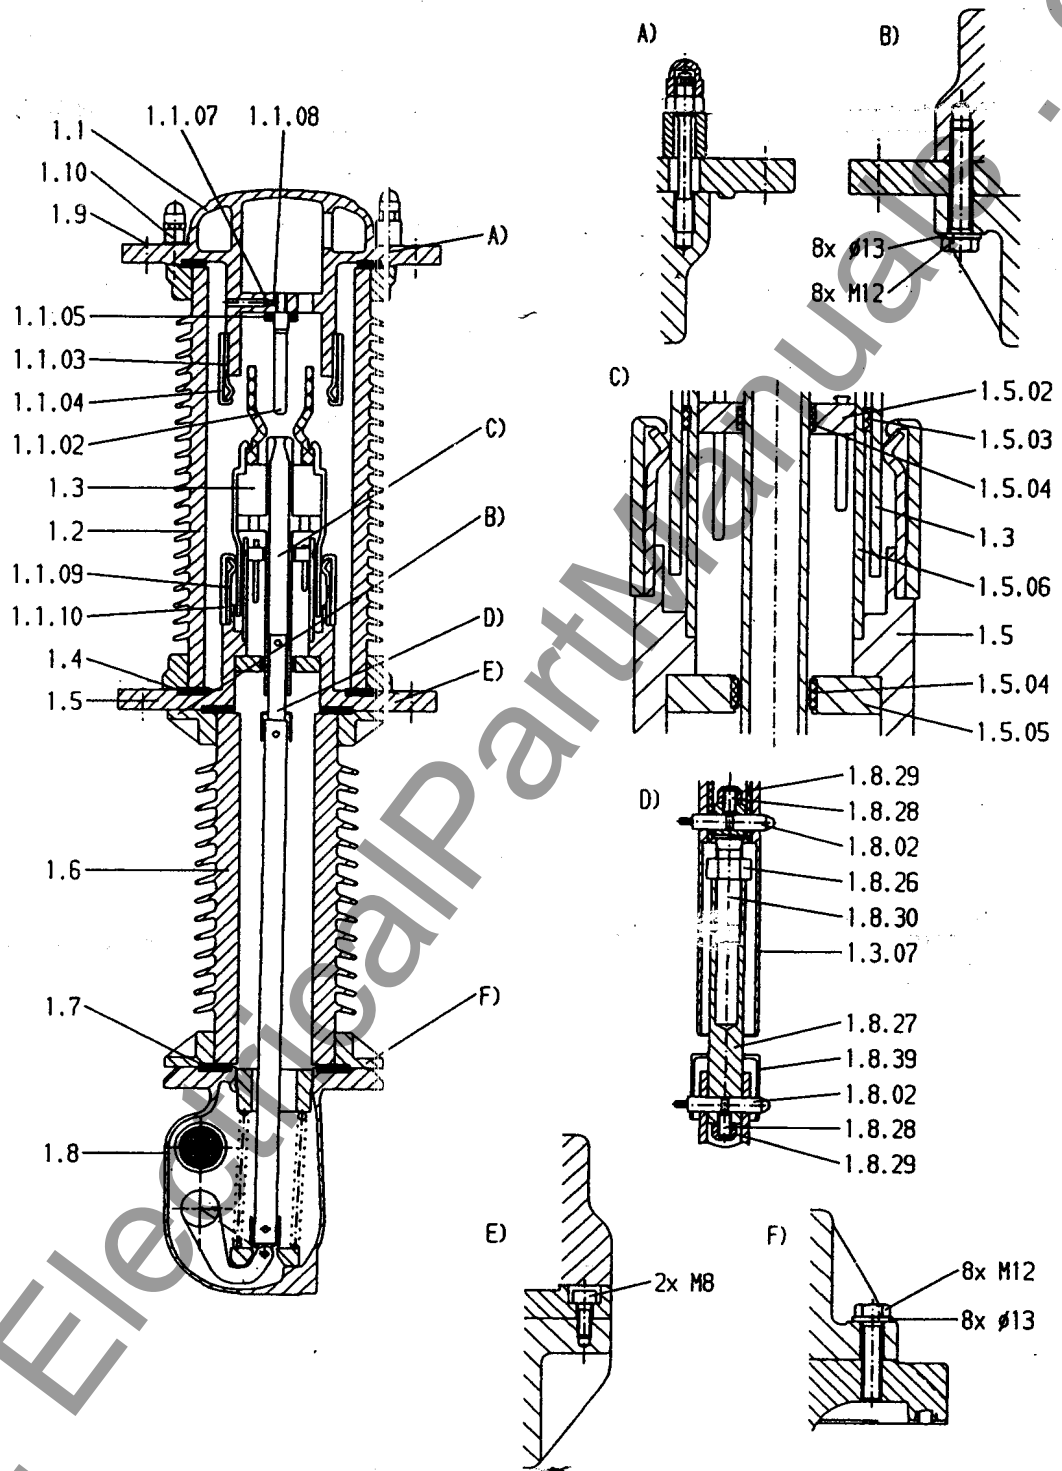

Fig. B1: Disassembling of the pole columns
- Undo the bolts of the upper flange of the support porcelain (1.6) (see figure B1, item B).
- Uncouple the complete interrupter unit (1.3) by loosening the locking pin (1.8.02) (see figure B1, item D). Use the assembling tool mentioned in table B5.
Legend to figure B1
- Remove the lower support of contact (1.5, figure B1, item E).
- Undo the support porcelain (1.6) at the lower flange (figure B1, item F) and lift it off.
- Replace three guide strips PTFE for the interrupter unit (fig. B1, item C).